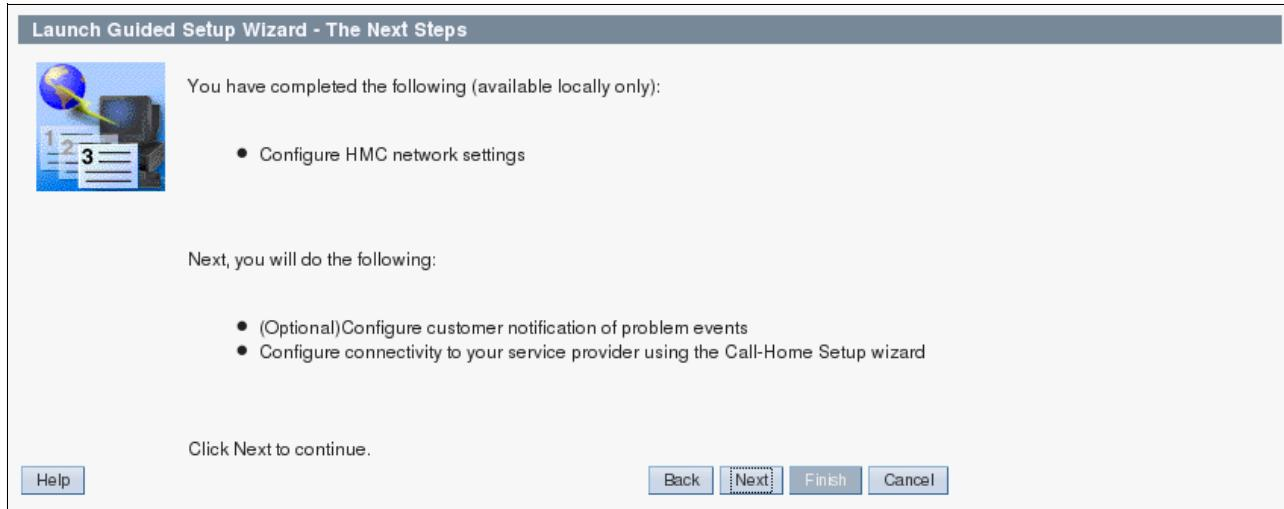

Figure 3-102 Network settings are completed
31. The Next Steps panel (Figure 3-102) explains that you are finished with the network settings, and will now proceed and configure optional functionalities. Click **Next**.